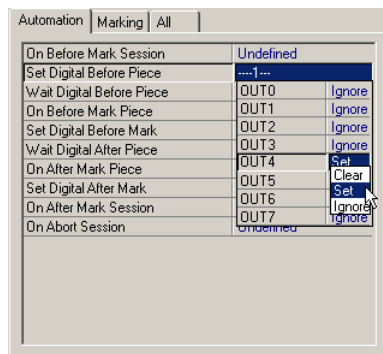

Figure 11-3 Setting “Set Digital Before Piece”
- 4 Click on *OUT4*, click the down arrow, and then select *Set* from the drop-down list (Figure 11-3).